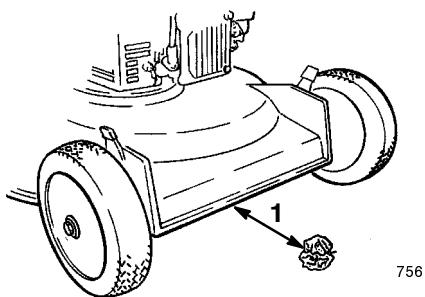

Figure 13
5. Take a half sheet of newspaper and crumple it into a ball small enough to go under the deck (about three inches or 76 mm in diameter) as shown in Figure 13.
6. Place the ball of newspaper five inches (12.7 cm) in front of the lawn mower (Fig. 13).
- A. Place the ball of newspaper five inches (12.7 cm) in front of the lawn mower (Fig. 13).